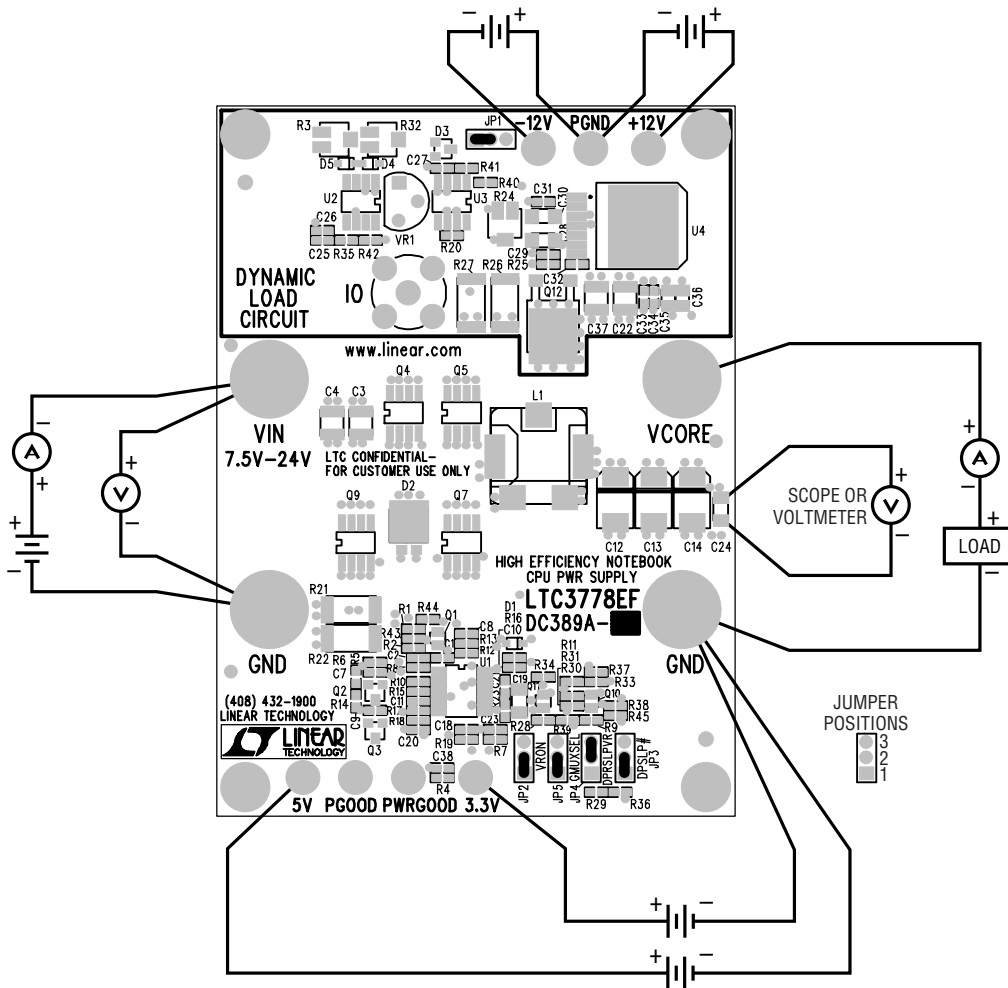

Figure 1. Proper Measurement Equipment Setup
Demonstration circuit 389 is easy to set up to evaluate the performance of the LTC3778. Refer to Figure 1 for proper measurement equipment setup and follow the procedure below:
Table 2. Jumper Descriptions (See Figure 1)
1. Set jumpers as shown in Figure 1. See also Table 2 for jumper descriptions.